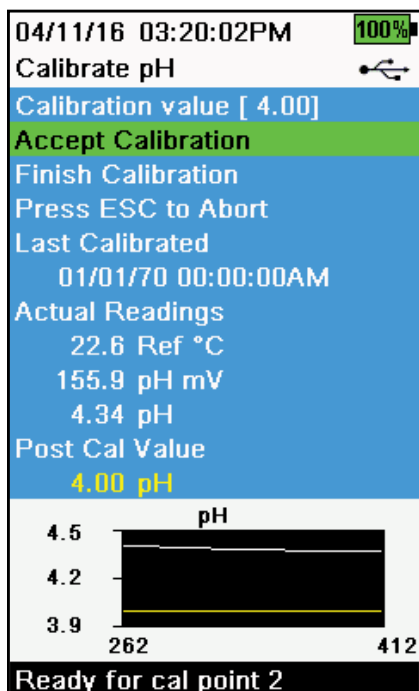

Figure 38 Calibrate pH 2- or 3-point
6. Observe the actual measurement readings for stability (white line on graph shows no significant change for 40 seconds), then select **Accept Calibration** (Figure 38). "Ready for cal point 3" will be displayed in the message area.